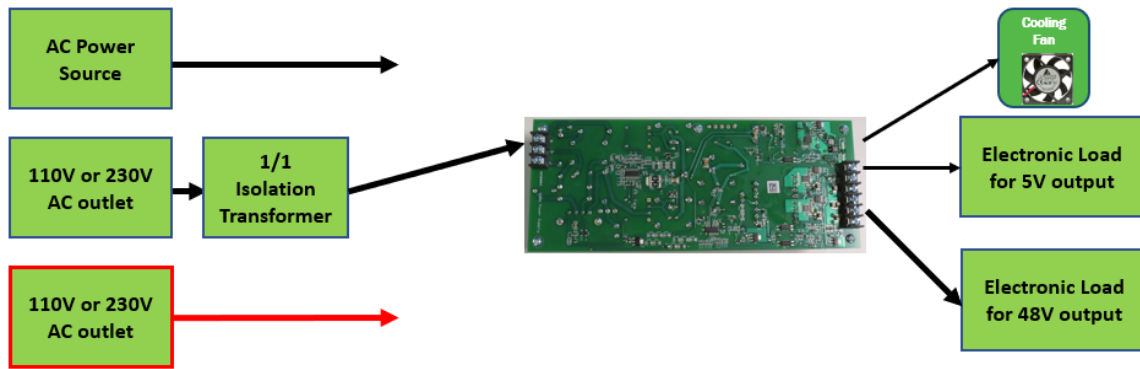

Figure 30. Test Setup Diagram
1. Use one of the setups pictured in Figure 30.